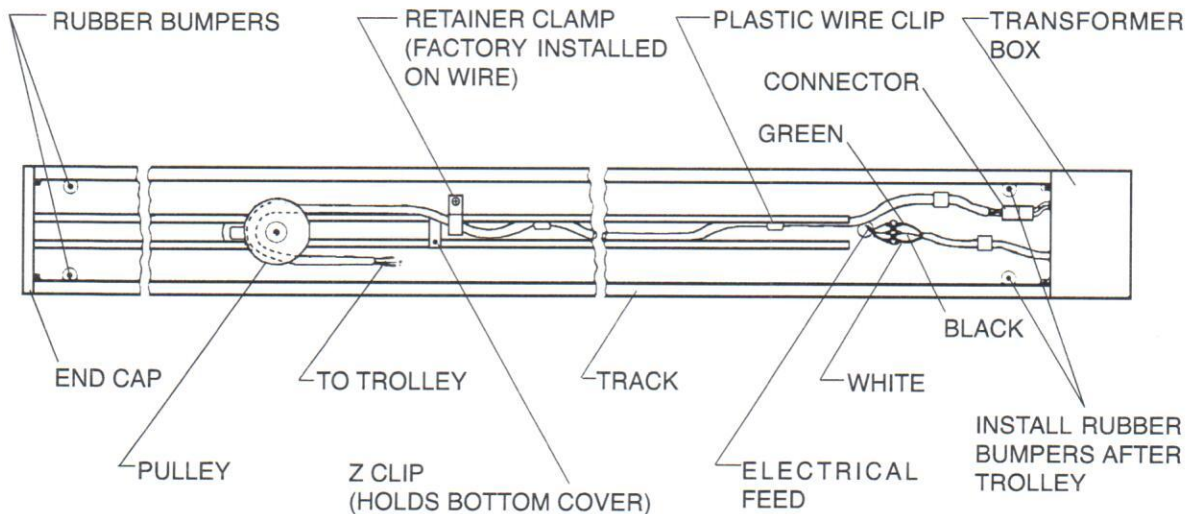

FIGURE 5 (2.2.4)
2.3. TROLLEY INSTALLATION (FIGURE 5)
2.4. TRANSFORMER INSTALLATION (FIGURE 5)